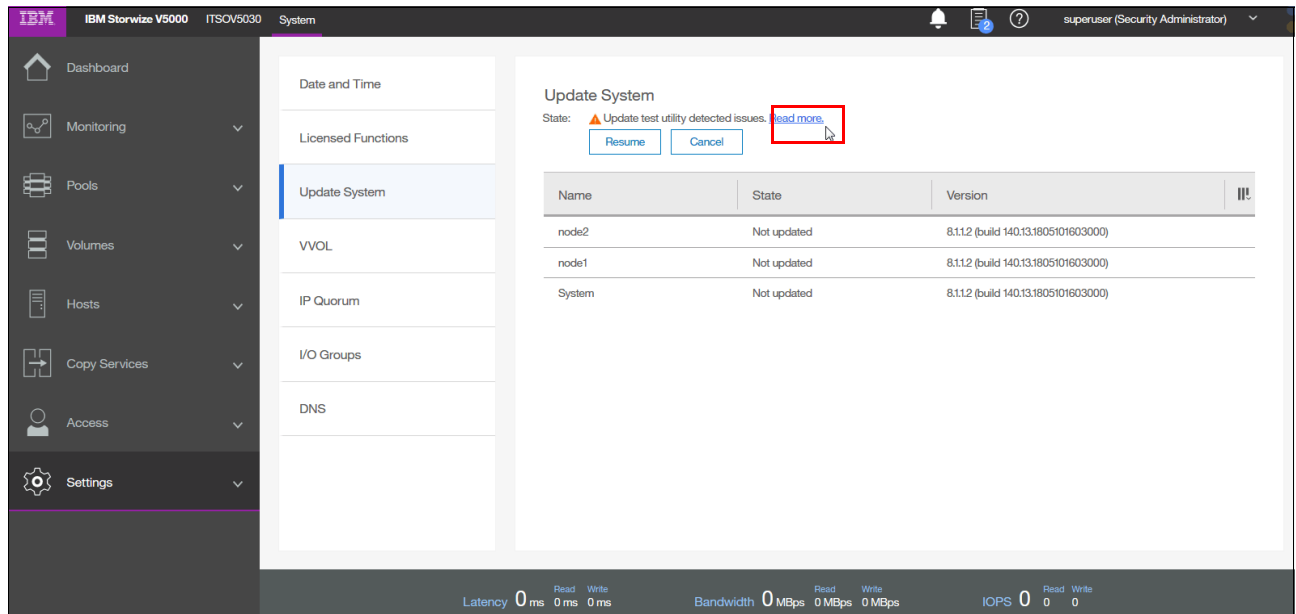

Figure 12-38 Warning about the issues that were detected
- If the test utility discovers any warnings or errors, a window opens to inform the user, as shown in Figure 12-38. Click **Read more** to get more information.